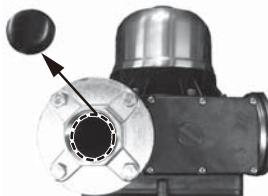

Fig. 2
6. For TQ1500/2200/3700, please cut out the center of the rubber gasket inside the inlet and outlet flanges as it will block the water flow.( See Fig 2 )